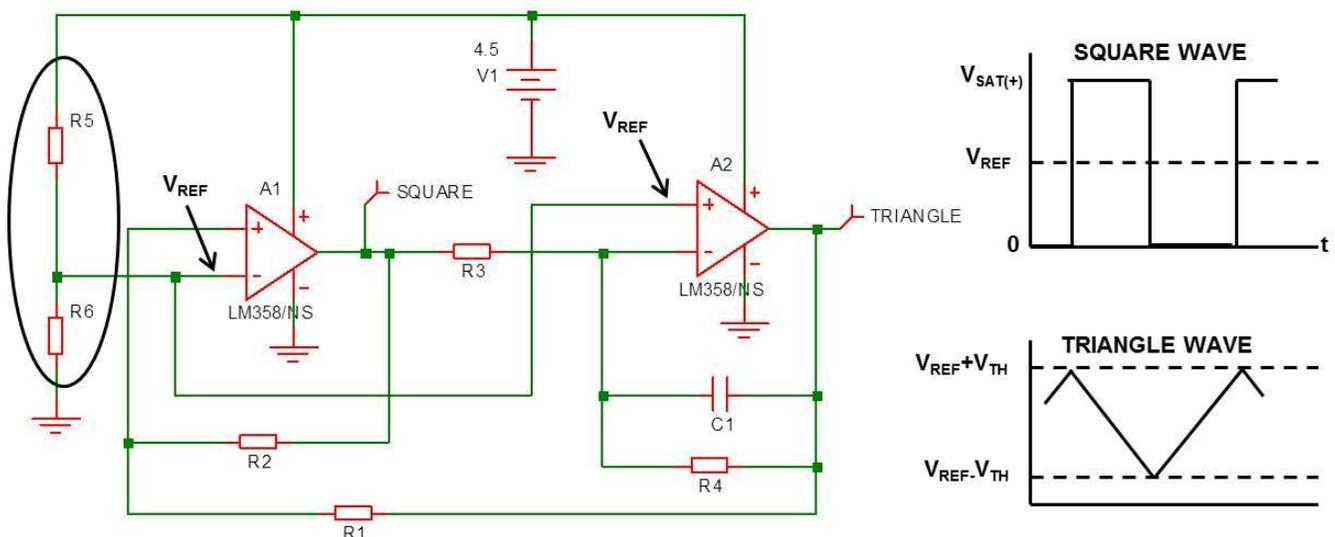

Fig. 1: Triangle wave generator using single-supply op amps.
- This lab requires a slightly different circuit because the **single-supply** op amps are powered with $+V_{CC}$ and $0V$. How does this affect circuit design? **The triangle wave output now oscillates between $V_{REF} + V_{TH}$ and $V_{REF} - V_{TH}$** (see Fig. 1).
- **A voltage divider can be used to produce V_{REF} .** As shown in Fig. 1, the (-) input of op amp A1 is now connected to a voltage divider (R_5 - R_6) instead of ground. The (+) input of op amp A2 is also connected to the same voltage divider.